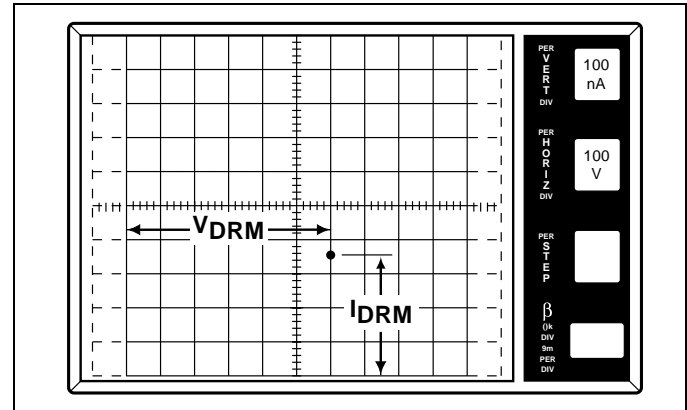

Figure 19.3  $I_{DRM}$  is equal to 350nA at  $V_{DRM}$  equal to 600
2. Set *Variable Collector Supply* to the rated  $V_{DRM}$  of the device and observe the dot on CRT. Read across horizontally from the dot to the vertical current scale. This measured value will be the leakage current. (See Figure 19.3.)